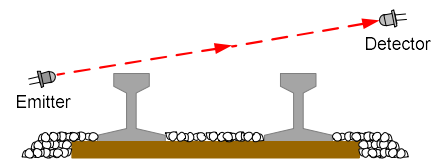
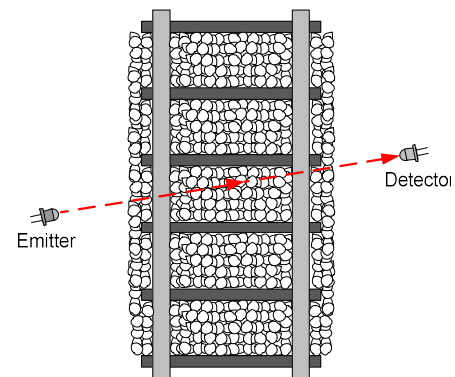

Figure 8a
Figure 8b
With this sensor mode and physical arrangement a train is detected when the infrared (IR) beam is broken by the train. The IR components should be located across the track as shown in Figure 8a and 8b; the distance between them has been tested up to 16 inches. The detectors (dark lens, blue and black wires) should be mounted with a slight downward angle in order to minimize the possibility of false triggering from visible light sources; this is illustrated in Figure 8a. We would also recommend that you angle the emitters and detectors across the track as shown in Figure 8b. This will minimize false “clear” situations due to the space between rolling stock. You can bend the IR emitter and detector components IF you are VERY careful and, preferably, use a pair of “smooth jaw” (no teeth/serration) pliers!! Make the bend on the IR component NO CLOSER than 0.5” from the tip. You don’t want to pierce the insulated heat shrink tubing and potentially cause a short.